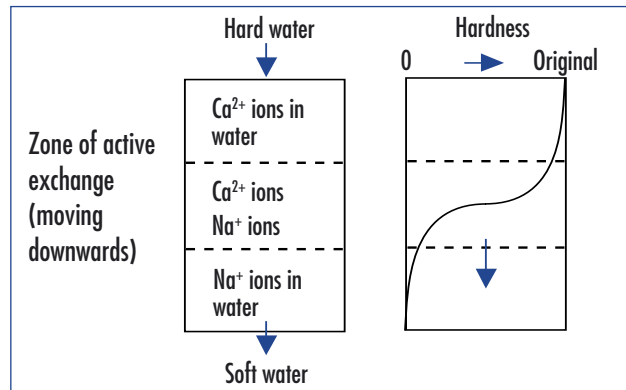

Fig1: Water softening using a cationic resin
- *Water softening using a cationic resin (fig. 1)*
Thus there is a zone of active exchange which moves down the column until the resin at all depths becomes exhausted. The position at an intermediate stage is illustrated (fig 1). When the zone of active exchange reaches the bottom of the column the emerging water begins to show an increasing hardness. This is the breakthrough point when it becomes necessary to regenerate the resin with a strong sodium chloride solution.